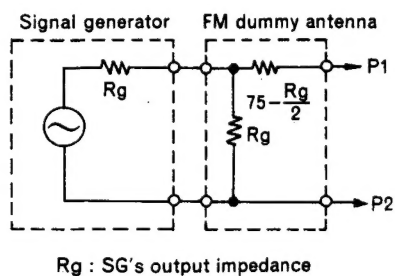

Fig. 4
5. Transmit to the dummy antenna in Figure 4 and connect to P1.